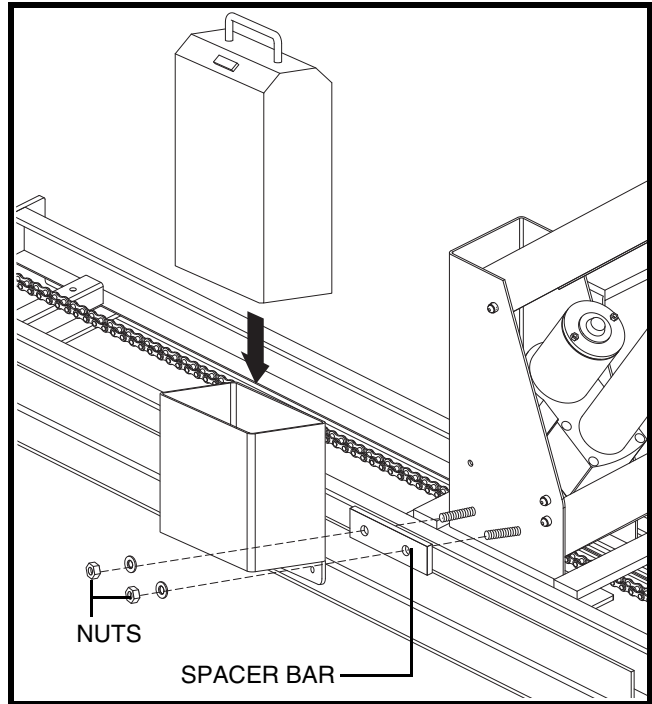

Figure 4. Onboard Battery Installation (Type I)
1. Remove the nuts and washers from the protruding bolts on the side of the lift motor housing. See **figure 4**.
3. Mount the battery case onto the protruding bolts and secure into position with the nuts and rubber caps removed earlier. See **figure 4**.